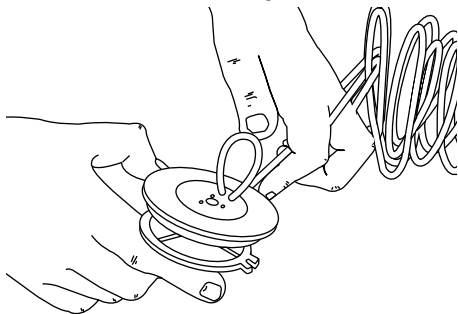

Fig. 17
5. Take approximately 25 feet (7.6 m) of new 0.080 in. (2.03 mm.) trimming line, loop it into two equal lengths. Insert each end of the line through one of the two holes in the inner reel (Fig. 17). Pull the line through the inner reel so that the loop is as small as possible.